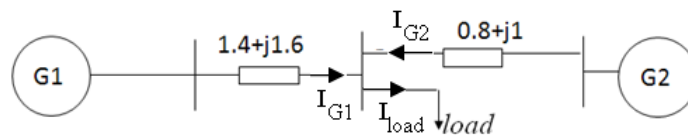

Fig. 1 Single-line diagram of a three-phase circuit
9. Two three-phase generators (G1 and G2) supply a three-phase load through separate three-phase lines as shown in Fig. 1 below.